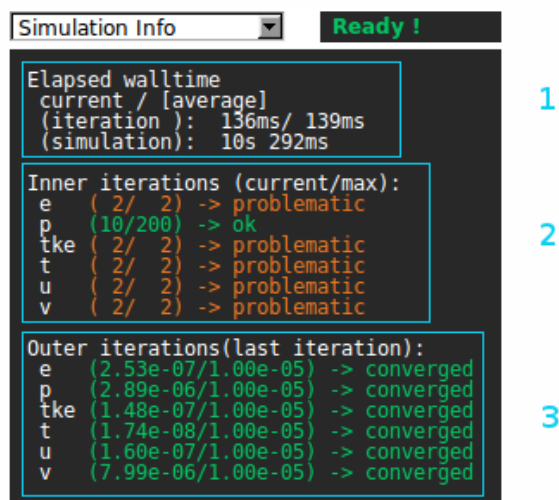

Figure 2: Simulation Information Panel
A new panel, "Runtime information", which is displayed in Figure 2 has been added. It contains information about:
- the running (or previously run) simulation timings including estimates for the remaining simulation time (1)
- detailed colored information about inner/outer loop convergence for each variable (2,3) as shown in Figure 2.